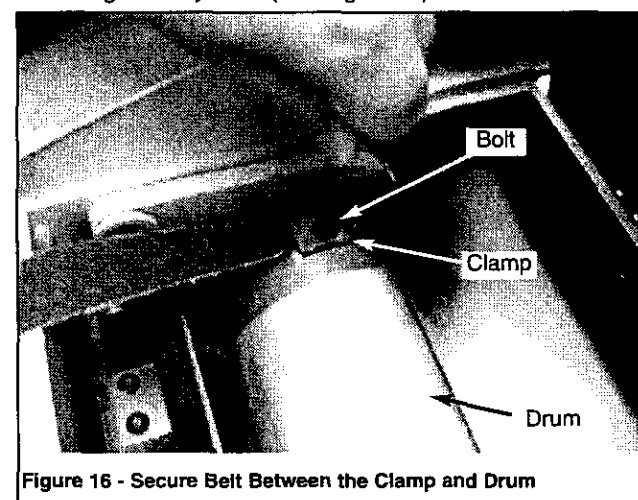

Figure 16 - Secure Belt Between the Clamp and Drum
- To replace the sanding belt, place end of belt (tapered edge on outside of drum) between clamp and drum, secure in position by tightening socket head bolt, and wrap belt by rotating drum by hand (See Figure 16).